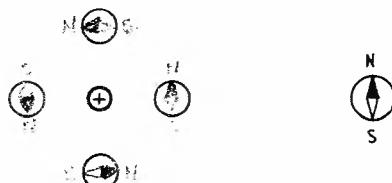

FIG. 3.
STEP 3. Reverse the current through the conductor. Record the compass deflections on Fig. 3.